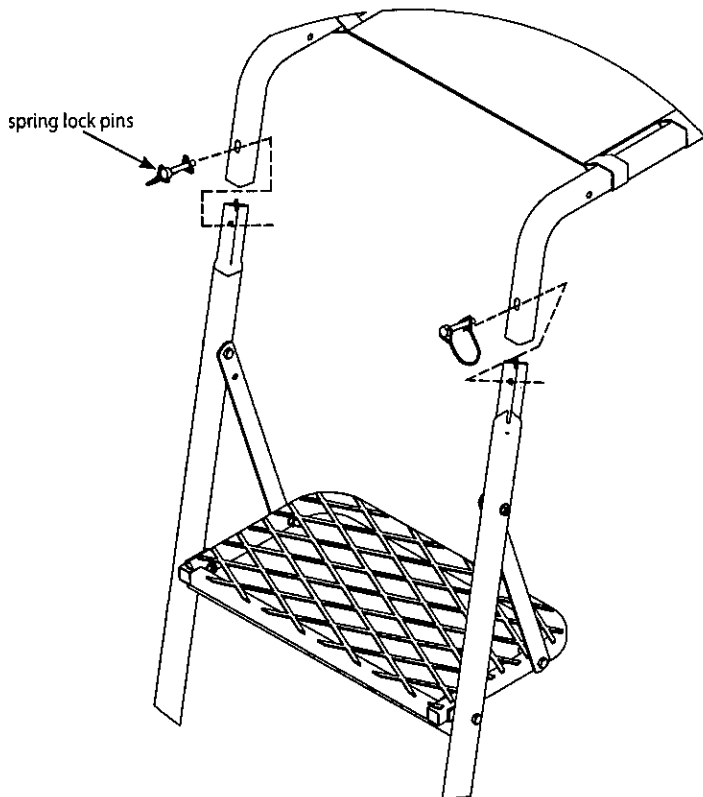

Figure 3
With all sections assembled together on ground, secure all sections together using (8) provided spring lock pins. Handle of spring lock pin must be put to the outside of ladder side rails. **SEE FIGURE 3.**